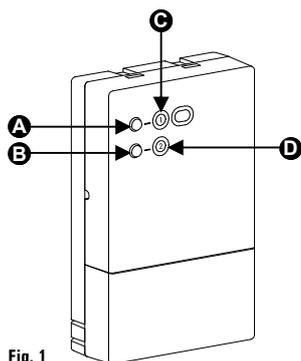

Fig. 1
LEDs (C and D Fig. 1)
SELF-LEARNING BUTTONS (A and B Fig. 1)
The device is equipped with two self-learning buttons for setting up the wireless link between the thermostat (or chronostat) and the receiver, one button for channel 1 (A Fig. 1) and one button for channel 2 (B Fig. 1).
- Press the self-learning button of the desired channel for a second (A Fig.1 for channel 1 and B Fig.1 for channel 2). The self-learning procedure starts: the relevant channel's LED will blink quickly yellow.
- Press and hold the button of the desired channel (A or B Figure 1).
- Press and hold both buttons **A** and **B** Fig.1